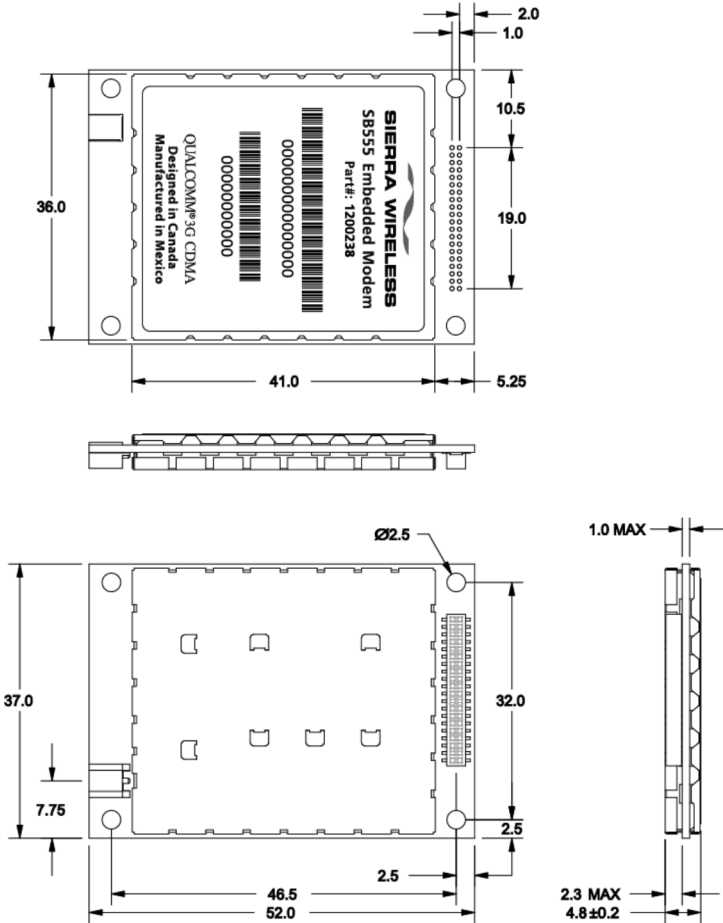

Figure 4-1: Physical dimensions (in mm)
The SB555 modem has four (4) mounting holes of 2.5 mm diameter, one located at each corner of the module (as seen in Figure 4-1). The mounting holes are sized to accommodate a #2 screw (metric M2).